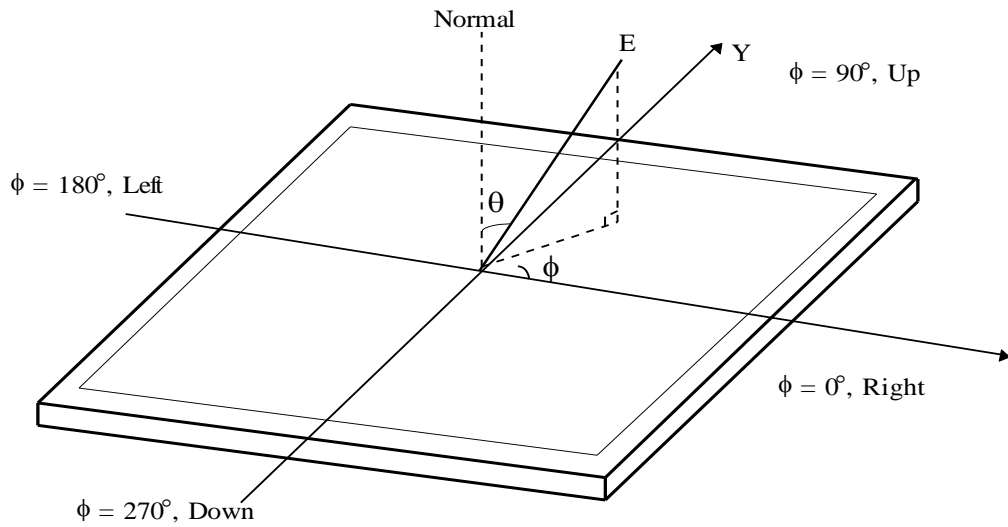

FIG.9 Viewing Angle
5. Viewing angle is the angle at which the contrast ratio is greater than 10. The angles are determined for the horizontal or x axis and the vertical or y axis with respect to the z axis which is normal to the LCD module surface. For more information, see the FIG. 9.